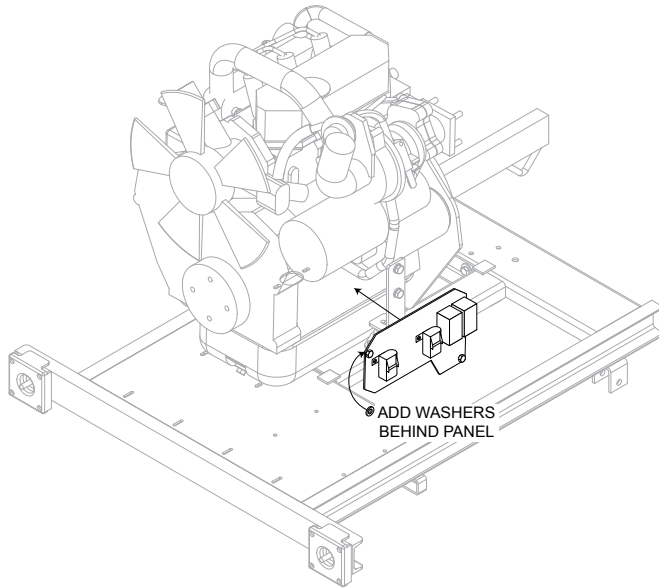

Figure 20. Reinstall Perkins Relay/Fuse Panel
6. **Perkins engine only:** Reinstall relay/fuse panel over rear engine mount. Insert washers as required (see Figure 20) to allow more space between panel and engine.